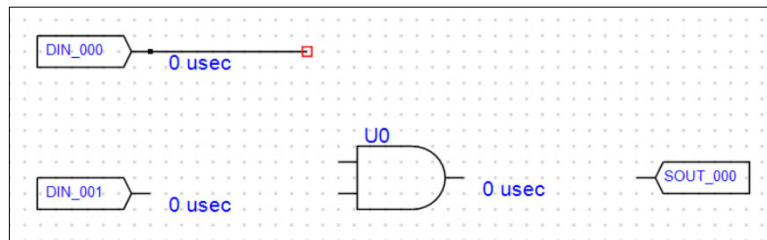

Figure 83 - Start of 2nd Segment
- 3) Start the next segment by holding down the Shift key then clicking on the end of the previous segment (Figure 83 - Start of 2nd Segment).